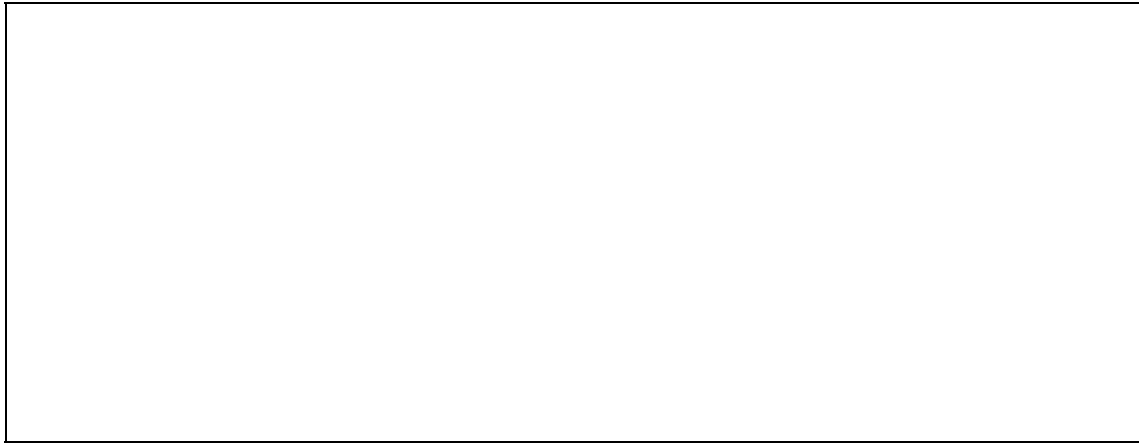

Figure 6.1 Jack Location
1. Jack up the weighbridge, Figure 6.1 shows jack location with load cell removed. If four jacks are used, one side of the weighbridge should be raised then supported on shoring four inches high. The other side then be raised and supported on shoring 4 inches high. The jacks must be removed to make room for the load cells.